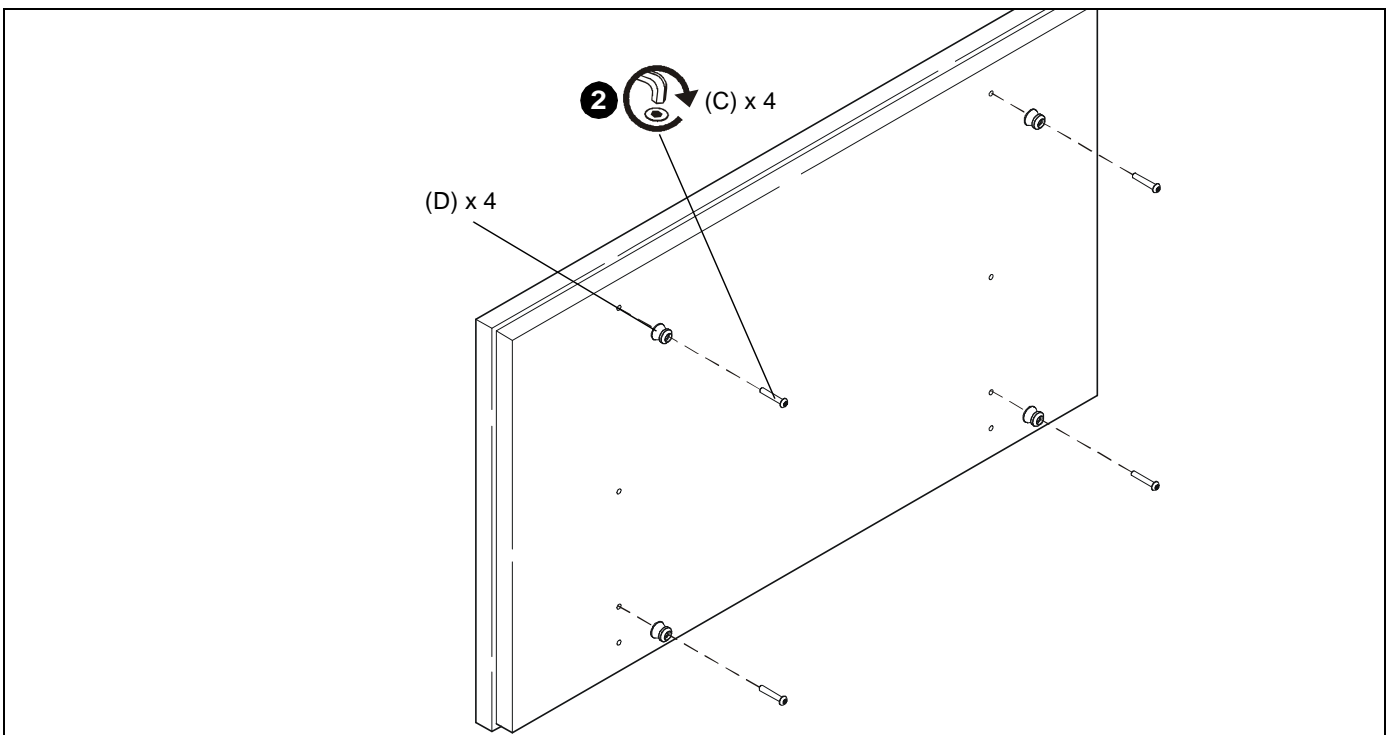

Figure 5
- Install four mounting buttons (D) onto display using four M8 x 35 button head cap screws (C). (See Figure 5)